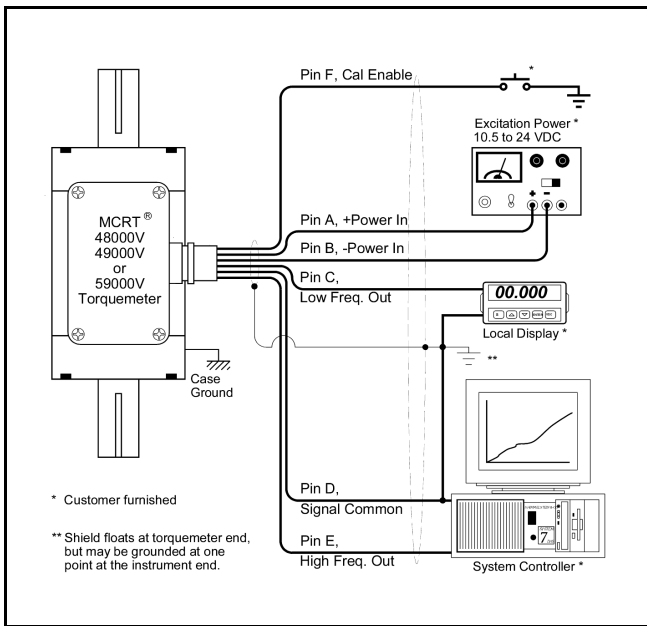

Figure 5. Torque Signal Connections
Connect excitation power to connector pins A and B; see Figure 5. Reverse polarity protection is standard. Observe the load resistance and capacity limits specified. **The torquemeter case should be connected directly to earth ground when conduit isn't used or, if its not reliably grounded.** Although any wire may be used for connections, *shielded cable will perform best in noisy environments and is recommended.* Note: the mating connector with cable clamp and boot, part number 320-1079, is furnished.
3. **Activate** and **hold** the **cal enable**, then adjust the **span control** (see Figure 5) for the equivalent torque calibration value (reference signal) listed on the attached calibration printout.